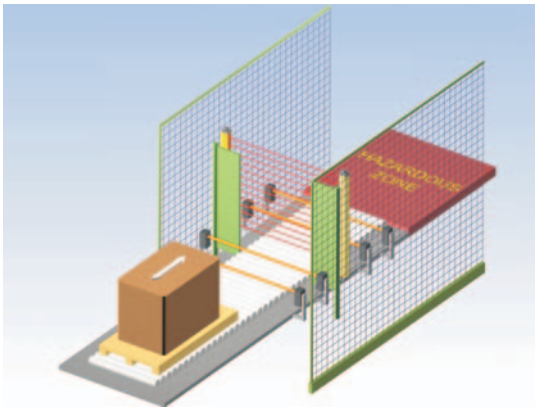

Figure 5a
- If pallets of different size can pass through the same access point, and it is possible that for some of these the distances "a" and "b" are greater than 200 mm, then distances "a" and "b" must be increased by at least 50 mm to avoid the danger of crushing between the side guard and the pallet. In this case, it may be necessary to use electrically-controlled flexible doors to prevent a person from reaching the hazardous area while the pallet is passing through the muting zone (see Figures 5a and 5b).